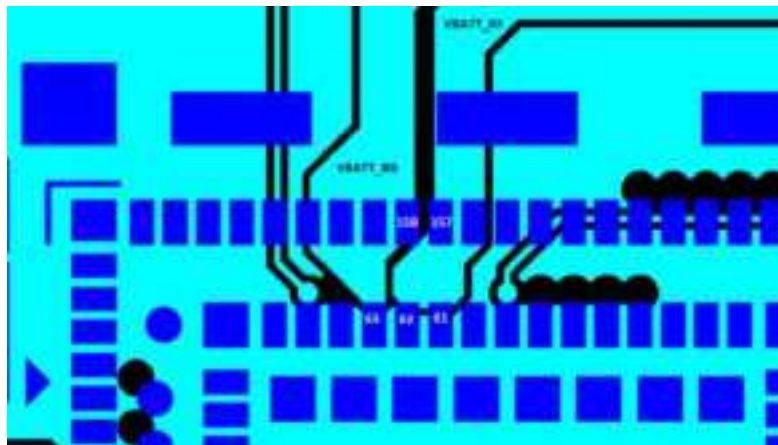

Figure 4-1: Power Supply Routing Example
*Note: Figure 4-1 shows separate traces for VBAT\_BB and VBAT\_RF. If VBAT\_BB and VBAT\_RF share a single power supply, these traces should be connected.*